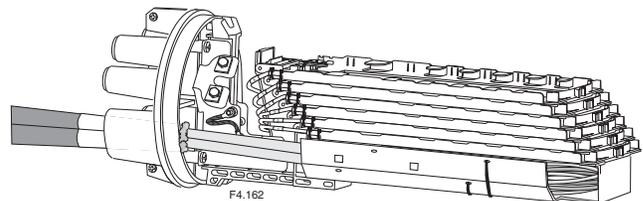

Figure 5
5. After completing a splice, pull the slack ribbon back into the slack basket for storage. (Fig 5)